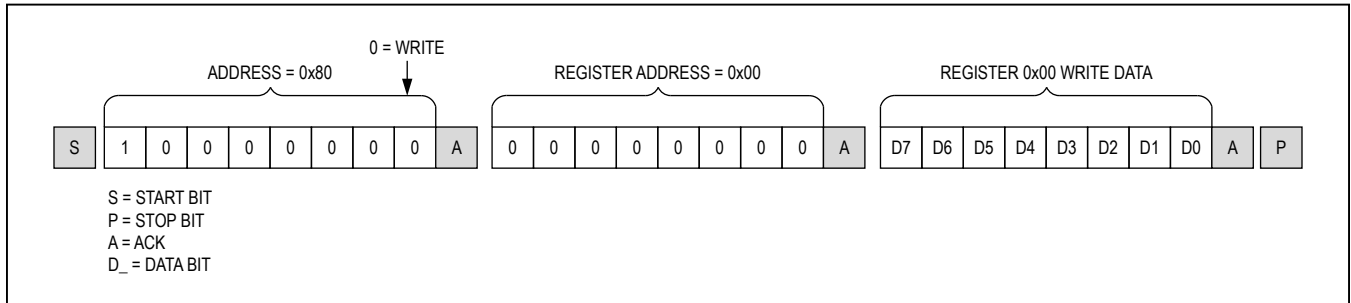
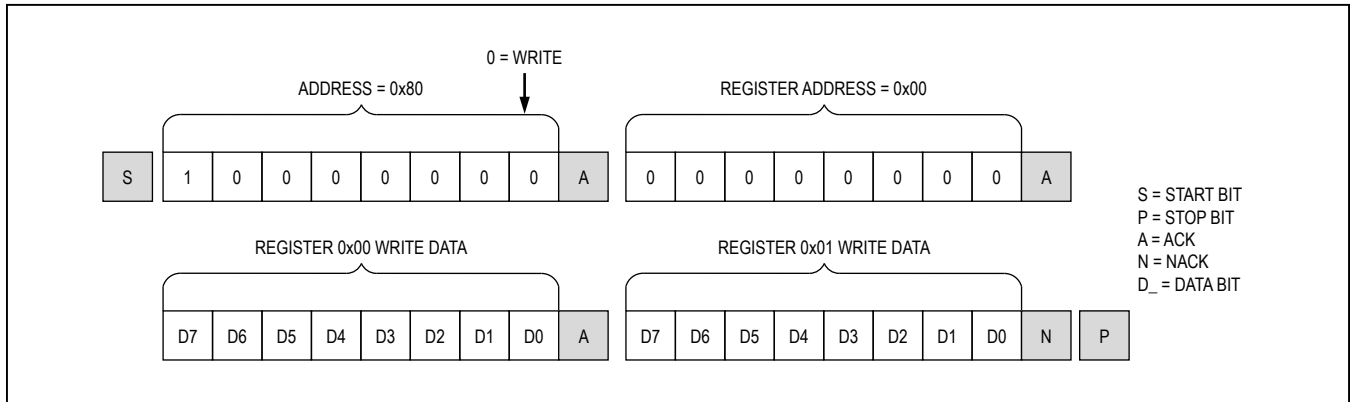

Figure 35. Format for I2C Write
Figure 36. Format for Write to Multiple Registers
Writes to the serializers comprise the transmission of the slave address with the R/W bit set to zero, followed by at least one byte of information. The first byte of information is the register address or command byte. The register address determines which register of the device is to be written by the next byte, if received. If a STOP (P) condition is detected after the register address is received, the device takes no further action beyond storing the register address (Figure 35). Any bytes received after the register address are data bytes. The first data byte goes into the register selected by the register address, and subsequent data bytes go into subsequent registers (Figure 36). If multiple data bytes are transmitted before a STOP condition, these bytes are stored in subsequent registers because the register addresses autoincrements.